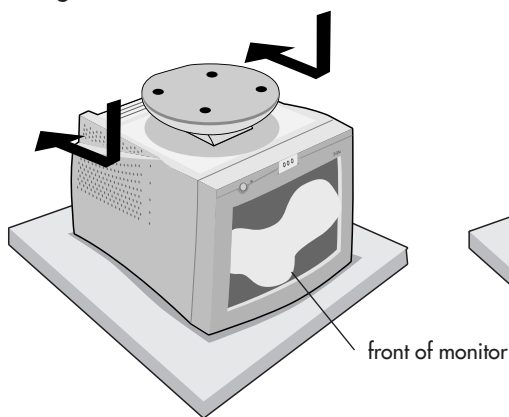

Figure TS-5
2. Push down on the latch of the tilt/swivel base and slide the tilt/swivel base backward from the front of the monitor (**Figure TS.5**).